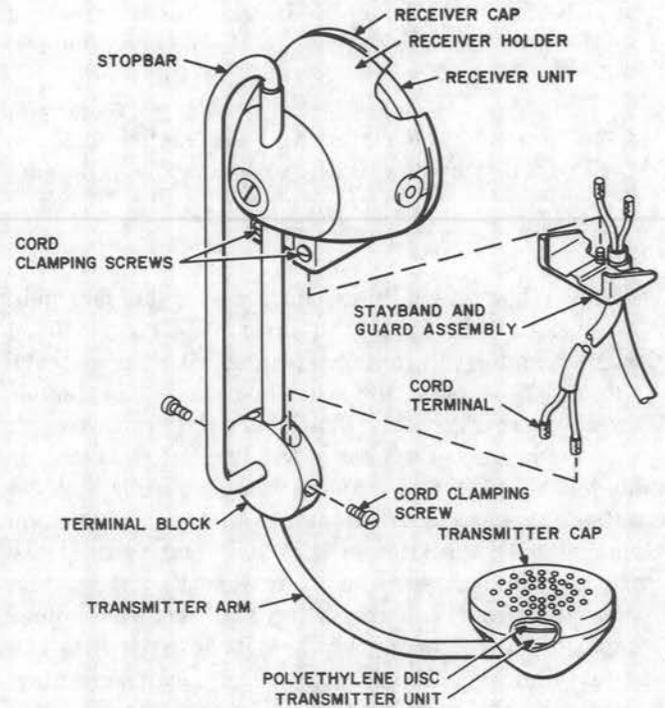

Fig. 9—Transmitter Arm Assembly and Receiver Holder
**4.05** To replace the receiver unit (Fig. 9), unscrew the cap from the handle and remove the old unit. Mount the new unit so the code designation on the unit is toward the transmitter. If replacing an HC-type receiver unit with an LB-type unit, install the adapter ring, insulator, and terminals as shown in Fig. 6. Screw the cap on the handle fingertight. When properly tightened, there will be a slight gap between the rims of the cap and case. If difficulty is encountered in screwing the cap on the handle, apply clear petrolatum sparingly to the threads of the handle.
**4.20** To replace the transmitter unit or polyethylene disc shown in Fig. 9, unscrew the cap and carefully lift the unit from the case. Where the unit is not provided with leads, proceed as covered in paragraph 4.21. Where the unit is provided with leads, proceed as covered in paragraph 4.22.